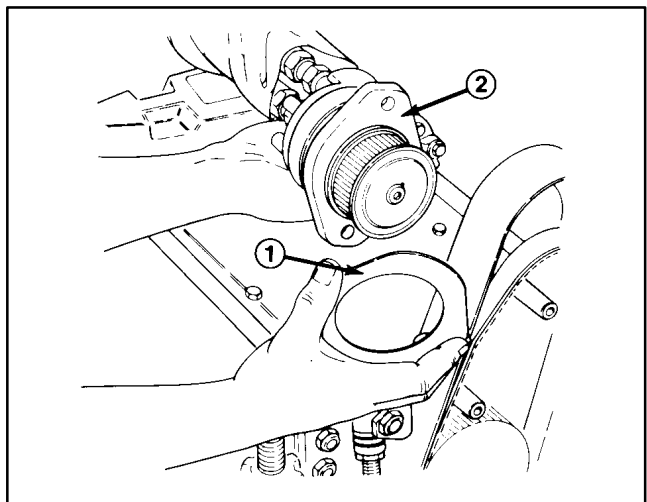

Figure 12
1. Install the drive plate shield onto the reel drive motor flange (Fig. 12). Be sure the widest portion of the shield is at the top.